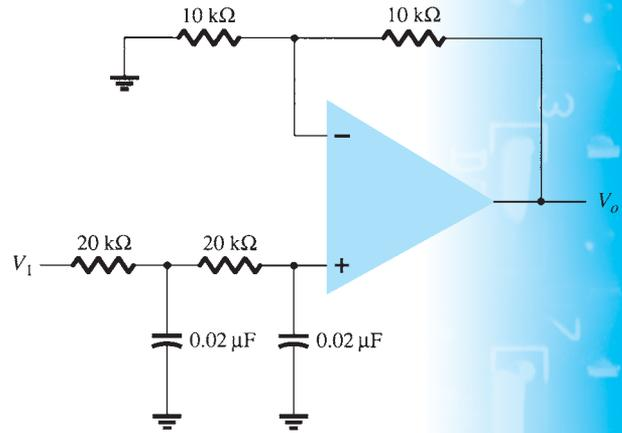

FIG. 11.58
16. Calculate the cutoff frequency of the high-pass filter circuit in Fig. 11.58.